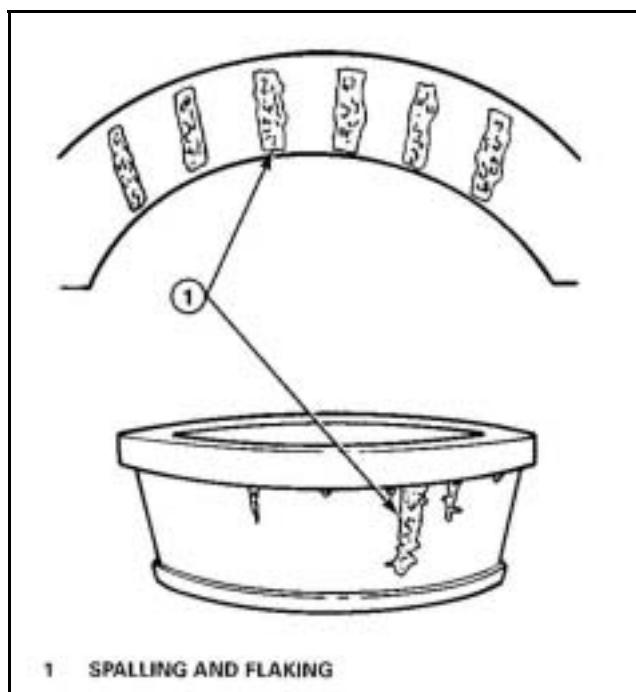

Figure 40
- g. Damage on the cup and cone inner race surfaces that touch the rollers. **Figure 40.**